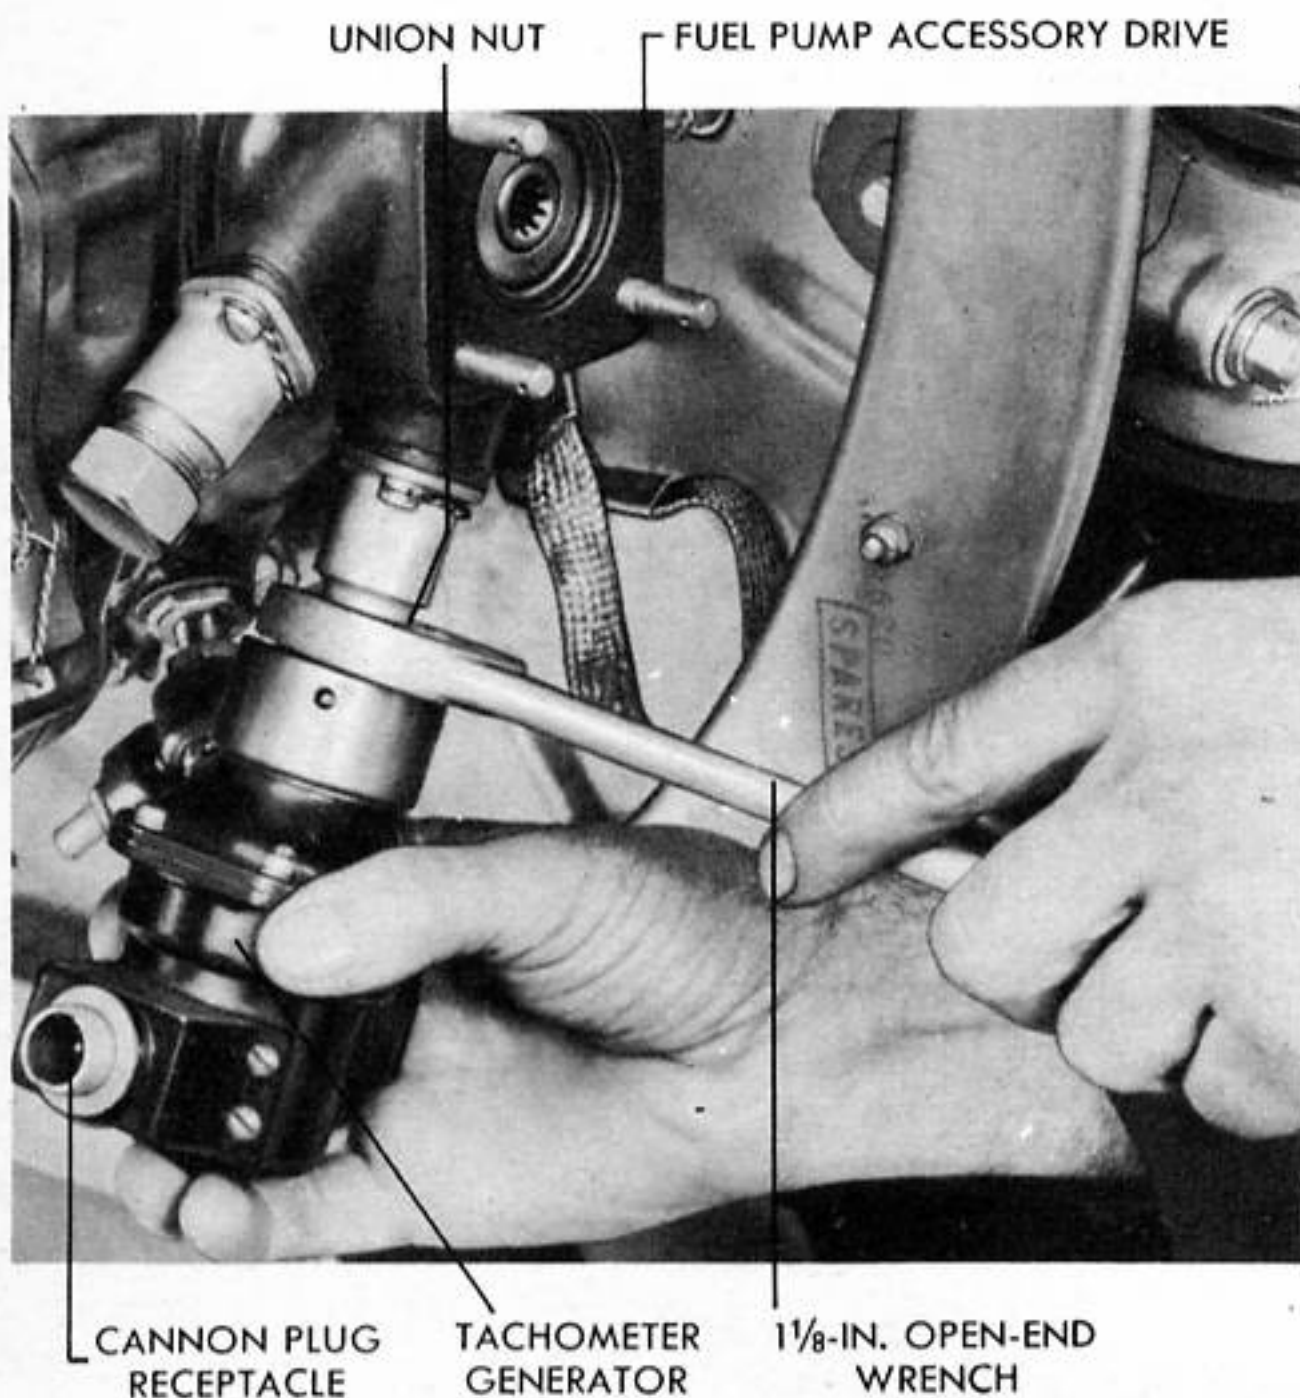

Figure 164 - REMOVING TACHOMETER GENERATOR
(3) REMOVAL OF TACHOMETER GENERATOR. (See figure 164.)
(3) INSTALLATION OF TACHOMETER GENERATOR. (See figure 164.)